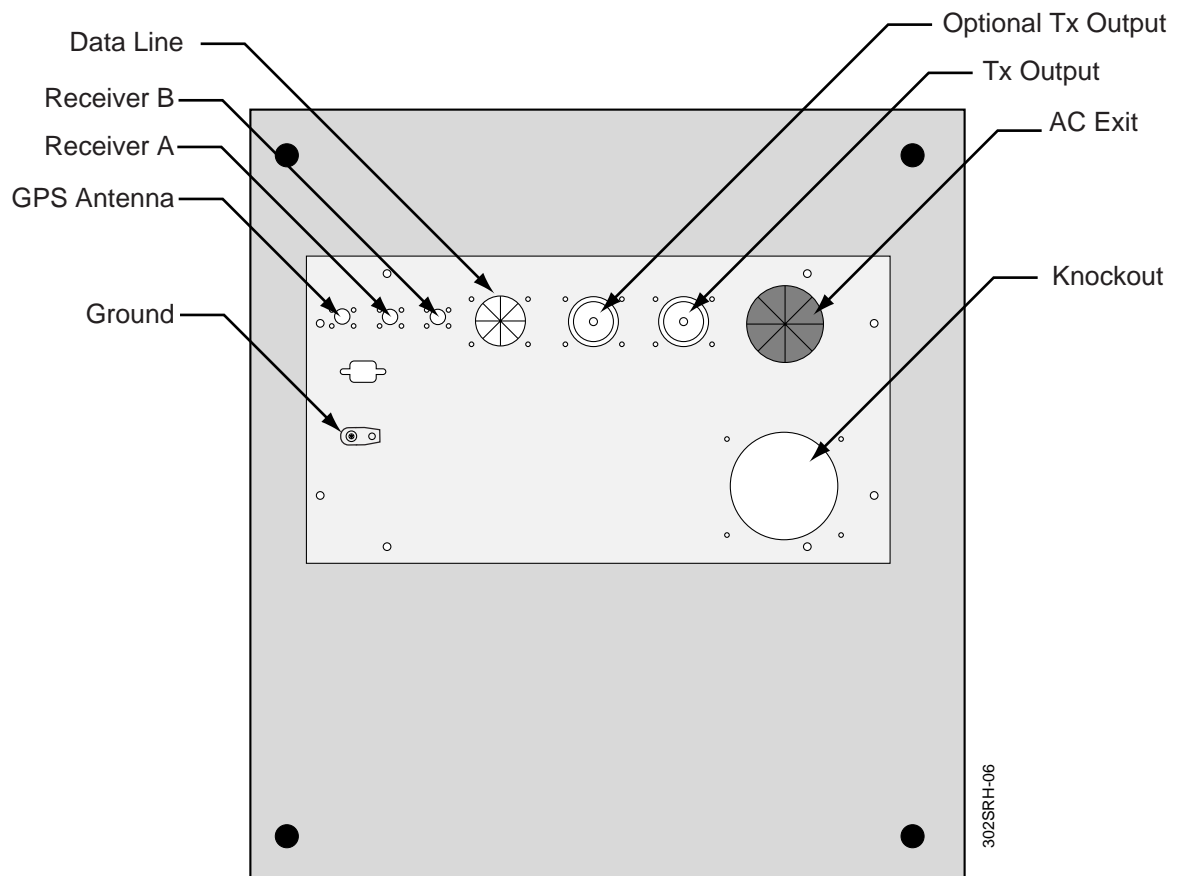
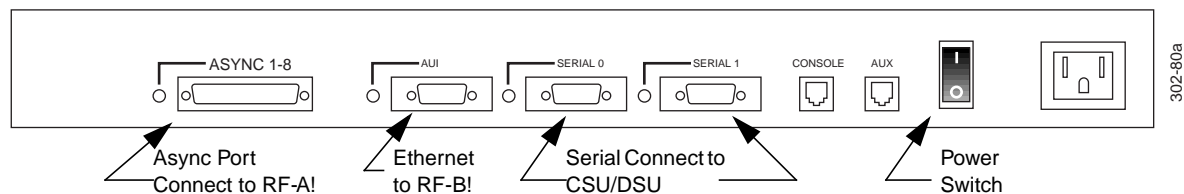
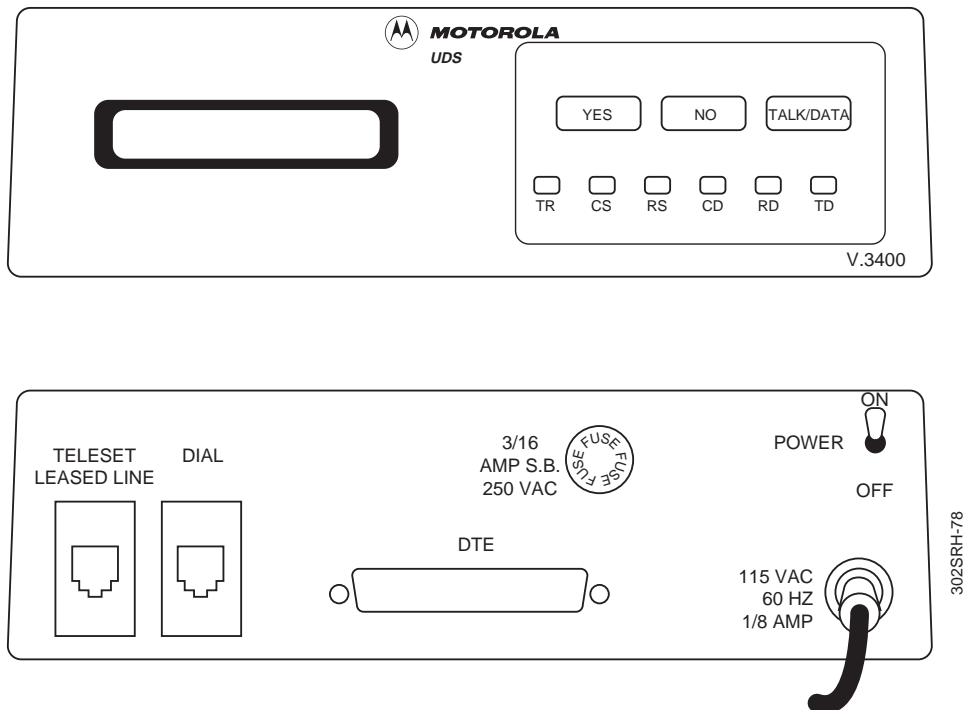
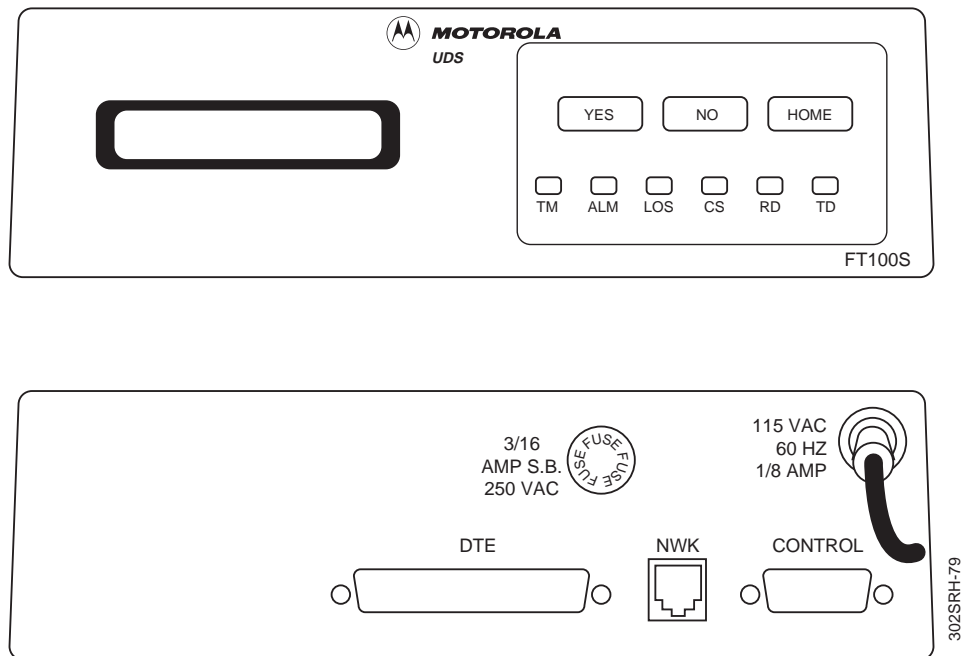

Figure 4-5: Top of Cabinet Connector and Cable Entrance Panel
Figure 4-7: Typical Network Router
Figure 4-8: Typical Network V.34 Modem
Figure 4-9: Typical Network CSU/DSU
The paging station antenna connector (Tx Output or Optional Tx Output) is a 7/16 DIN RF female connector located at the top of the cabinet (see Figure 4-5).
2. At the top of the cabinet connect the site transmitter antenna cable to the transmitter output connector located on top of the cabinet using a 7/16 in. torque wrench and 1 1/4 in. crow's foot adapter (see Figure 4-5).
The GPS antenna connection is also located at the top of the cabinet (see Figure 4-5). Locate and connect the GPS antenna cable to the GPS antenna connector and tighten securely.
The RF-A! receiver antenna connections are located at the top of the cabinet (see Figure 4-5). Locate and connect the receiver antenna cable(s) to the Receiver A and Receiver B antenna connectors and tighten securely.
Route the TELCO provided line through the top of the cabinet using the data line entry port provided (see Figure 4-5). Route the TELCO line through the cabinet to the rear of the router and connect the data line to one of the serial port connectors on the rear of the router (Figure 4-7).
Route the TELCO provided line through the data line entry port provided at the top of the cabinet (see Figure 4-5). Route the TELCO line through the cabinet to the rear of the modem and connect the data line to the data port connector on the rear of the modem (Figure 4-8).
Route the TELCO provided line through the top of the cabinet using the data line entry port provided (see Figure 4-5). Route the TELCO line through the cabinet, and connect the data line to the DTE connector on the rear of the CSU/DSU (see Figure 4-9).